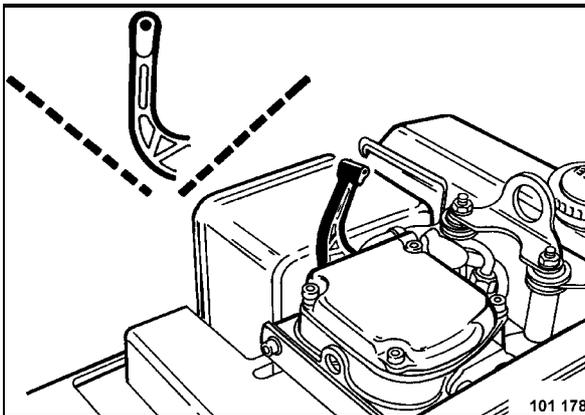

Fig. 17
- Pull the decompression lever (Fig. 17) only a fraction in direction of arrow.